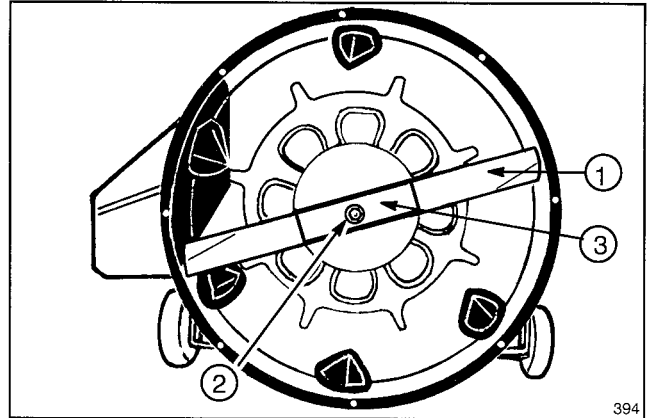

Figure 22
6. Grasp end of blade using a rag or thickly padded glove; then remove blade bolt, curved washer, blade stiffener and blade (Fig. 22).
9. In sequence, install blade, blade stiffener, curved washer and blade bolt (Fig. 22). The concave side of the curved washer must point toward the blade. Tighten blade bolt to 45-60 ft-lb (61-81 N·m).
6. Since rider is tipped on end, check condition of blade (Fig. 22).